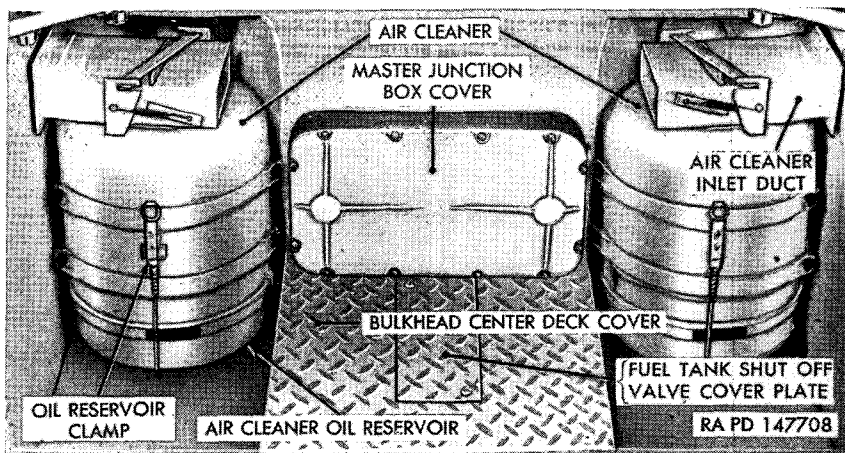
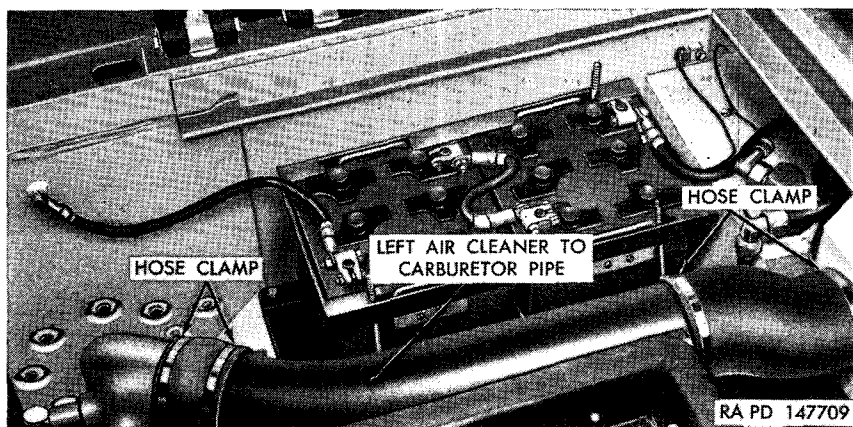

Figure 146. Air cleaners—installed view.
Figure 147. Air cleaner to carburetor pipe.
b. REMOVAL. The procedure for removing both air cleaners (fig. 146) is the same. Open engine compartment side grille door and loosen hose clamp (fig. 147) on the air-cleaner-to-carburetor pipe at air cleaner. In the crew compartment, remove four lock nuts from air cleaner mounting clamps and remove clamps. Pull air cleaner forward and lift out.
c. **INSTALLATION.** The procedure for installing both air cleaners is the same. Position air cleaner in place with outlet pipe hose through hole in bulkhead and inlet duct mating with opening in bulkhead side (figs. 146 and 148). Install air cleaner mounting clamps and secure with four lock nuts. Working through engine compartment grille doors, connect air-cleaner-to-carburetor pipe and tighten hose clamp (fig. 147).
Note. With engine in vehicle, the valves can be removed through the fuel-tank-shut-off-valve cover plate (fig. 146) on the crew compartment floor.